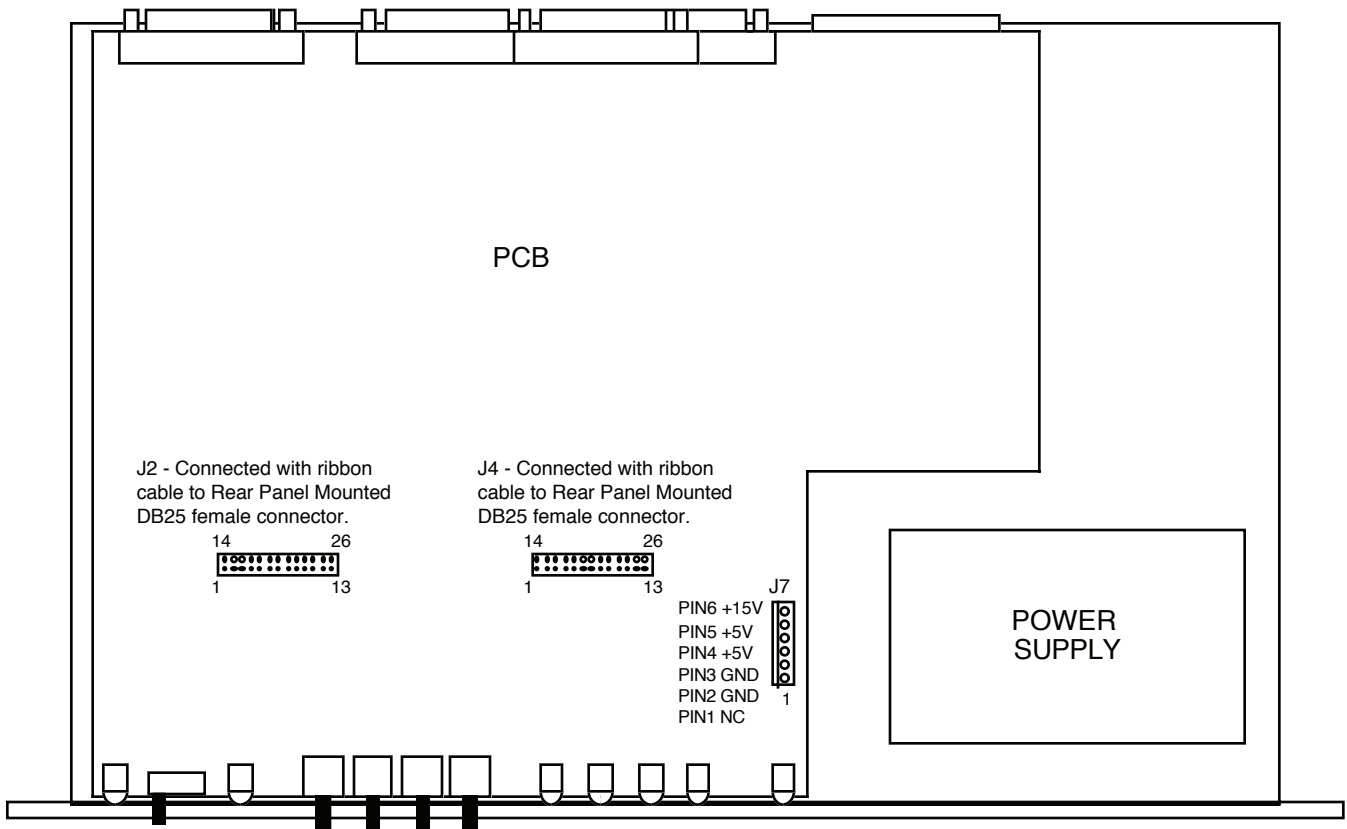

FIGURE 2.1 1582-45L Mechanical Assembly
2.1 Mechanical - The 1582-45L consists of one printed circuit board (PCB) housed in a 1 RU (1 3/4 inch high) by 12 inch deep chassis. A single power supply provides +5V and +15V DC power to the PCB. Connectors are DB25, female for the data connections and a barrier strip for the controls/indicators. The 1582-45L can be secured to a rack using the 4 holes on the front panel. Figure 2.1 shows how the 1582-45L is assembled. J6 connects DC Power to the PCB as shown and J2 and J4 are connected to the rear panel DB25 connectors via a ribbon cable.